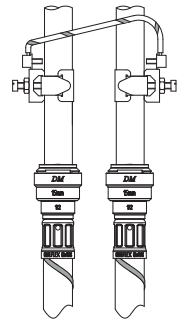

Fig. 9
- 4.15 **Adjacent pipes:** Adjacent suction and delivery pipes should be fitted with earthing clamps to BS 951 and connected with earthing wire size 4 mm² (Fig. 9).